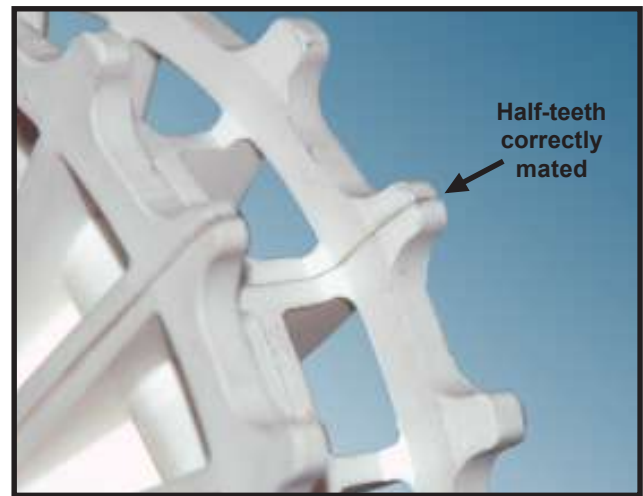

Figure 33A
The sprockets used with the MultiSpan® conveyor system each consist of two sprocket halves, assembled and installed onto the conveyor's Drive and Idler shafts. Because the sprocket has an odd number of teeth (21), the two sprocket halves are not symmetrical. The sprocket halves must be oriented to properly mate the half-teeth (*Figure 33A*) in order to fit together correctly.
Be sure the half-tooth on the top sprocket half matches up with the half-tooth on the bottom sprocket half (*Figure 33A*).